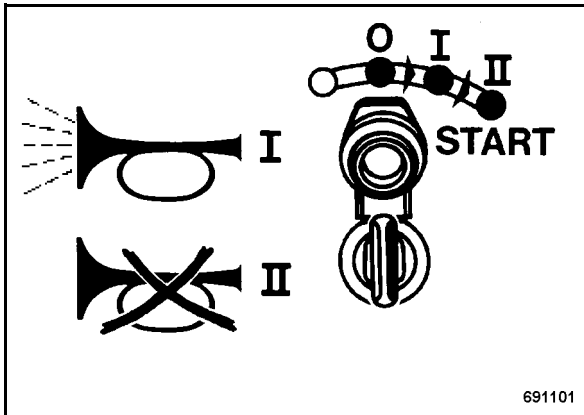

Fig. 24
- Turn the ignition key to position I (Fig. 24), the warning buzzer does not sound.